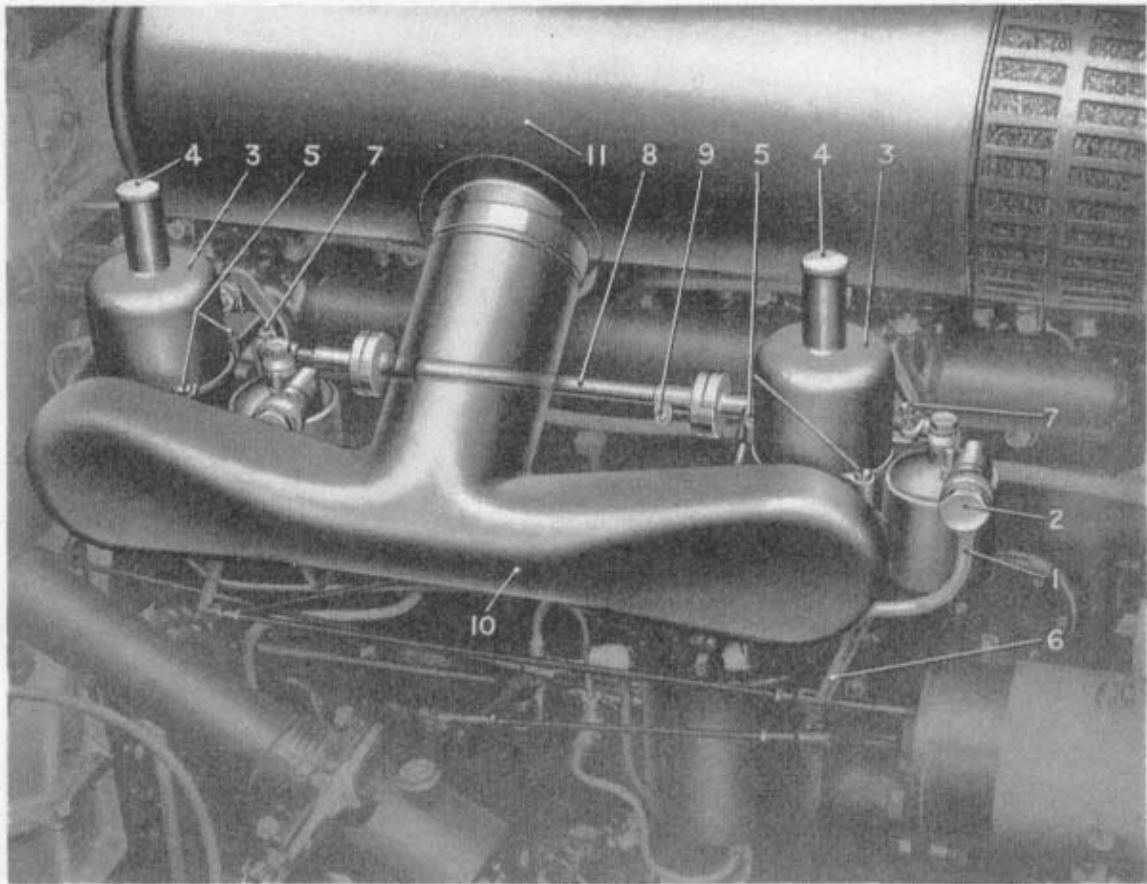
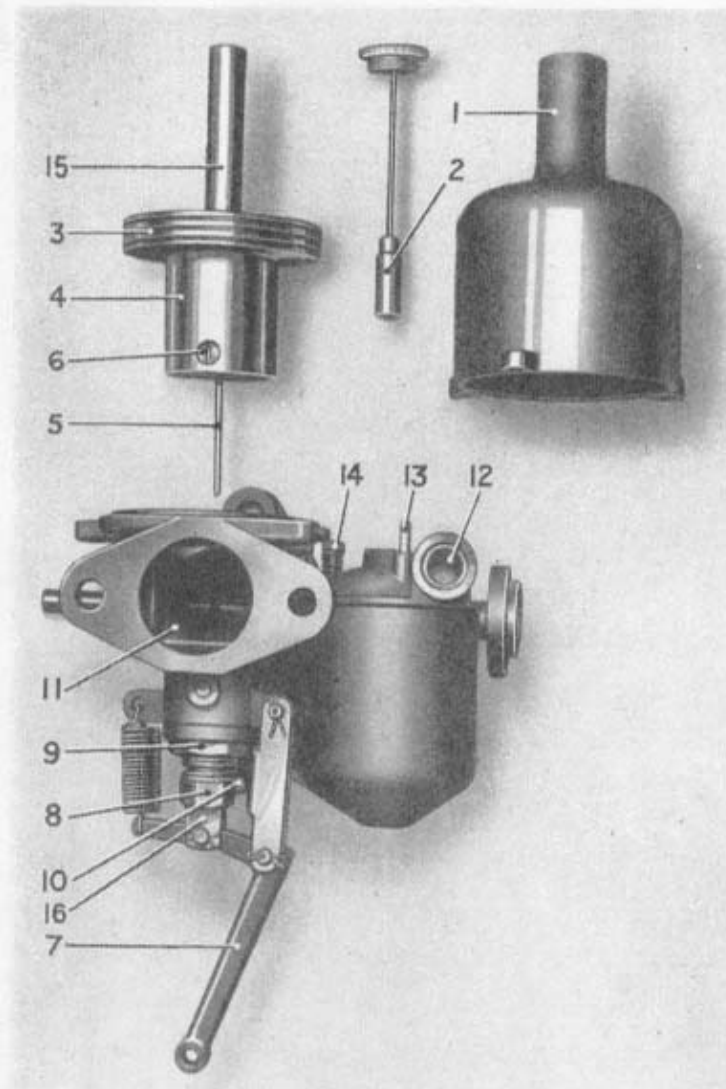

Fig. 13. CARBURETTERS IN POSITION ON ENGINE.
Fig. 14.—CARBURETTER—EXPLODED VIEW.
In addition a small gauze strainer, shown at (12, Fig. 14), is arranged on each carburetter. These should be removed and cleaned every 20,000 miles, as directed on page 33.
Removal is effected by unscrewing the two union nuts (2, Fig. 13). The strainer gauzes can then be removed and cleaned in petrol.
Two carburetters of the S.U. controllable jet type are fitted as shown in Figs. 13 and 14, one being shown in section to illustrate the principal parts.
from cold. The damper consists of a small cylindrical brass plunger (2, Fig. 14), attached by a thin steel rod to the oil cap nut (4, Fig. 13). Inside the plunger is a one-way ball valve which seats in an upward direction. The plunger is a free fit in the hollow guide rod of the automatic air valve piston, the chamber being filled with a thin oil. The action of the device being as follows:—
Every month, as directed on page 30, the oil reservoir cap nut (4) (Fig. 13), should be unscrewed and the plunger withdrawn, *great care being taken to avoid damage to the plunger rod by bending*, the reservoir should be topped up, if required, with the recommended oil, so as to maintain the level of the oil to the
If it is suspected that the automatic air valve is not working correctly, the air intake (10, Fig. 13), should be removed, and a check made by lifting the piston with the fingers, when it should be noted that the piston falls quite freely on to its seat when released.
If any sticking or sluggishness is apparent, it will be necessary to dismantle the air valve assembly; first remove the hydraulic piston damper, next remove the three screws (5, Fig. 13), and lift off the cylinder (3). The piston valve can be then lifted out, *the utmost care being taken not to bend or damage its depending needle valve* (5, Fig. 14), *or to bruise the valve in any way*. The valve, cylinder and guide, should be carefully wiped with a piece of clean cloth dipped in petrol, and the piston rod ONLY lubricated with a few drops of thin oil.
The suction disc (3, Fig. 14), does not touch the walls of the cylinder, there being a small clearance, and it is centralised solely by the piston rod working in the guide. Therefore, any sluggishness in movement is probably due to dirt in the guide, or on the cylinder walls.
The needle valve is secured in position by means of a grub screw, (6, Fig. 14), and if it should be necessary to remove this, as, for instance, when replacing an accidently damaged needle, it must be particularly noticed that the location of the valve is determined by a shoulder. The valve should be pushed into the piston until this shoulder is just flush with the lower face and the grub screw tightened.
The quantity of mixture for slow running is determined by means of an adjustable screw stop on the front carburetter (7, Fig. 13), which limits the closing movement of both throttles. This is so adjusted that the engine will idle slowly but reliably when the hand throttle lever on the steering wheel is set right to the bottom of its range and the accelerator pedal released. The stop on the rear carburetter is normally inoperative, and is only used to help initial adjustment.
Re-adjustment of the jets, and of the control shaft between the carburetters, should not normally be required. If, however, the whole adjustment has been disturbed, first adjust the throttles so that both carburetters function equally at "fast idle". An indication that both pistons have risen can be felt by depressing the top of the piston guide rod (15, Fig. 14) by means of a small rod inserted through the top of the cylinder (3, Fig. 13), after removal of the oil cap nut and hydraulic piston damper (4, Fig. 13). The jets should then be adjusted subsequent to this operation, as described below.
The mixture control lever on the steering wheel operates to raise or lower the actual fuel orifice or jet, through the medium of the levers (6, Fig. 13.). Raising the jet causes the taper needle to sink further into the orifice, so weakening the mixture. Conversely, lowering the jet enriches the mixture. This control is only intended to provide a means of strengthening the mixture for starting from cold, for normal running the jets must be in their highest position, the back of both the jaws (16, Fig. 14), abutting against the adjustable stops (8, Fig. 14), simultaneously.
With the engine warm, the control rods should be disconnected from the ends of the levers (6, Fig. 13), and the latter pushed up until the jaws (16, Fig. 14), are against the stops (8, Fig. 14). Then, with the engine running, the stops should be manipulated until the engine runs regularly. Any sign of "hunting" is due to the mixture being too rich, and one or both of the stops must be screwed further in and the lever pushed up so that the jaw is against it.
If it is required to dismantle the float chambers, it will be most convenient to remove them bodily—after removing the fuel pipes—by unscrewing the hexagon plugs (10, Fig. 14), which secure each to its carburetter body.
The large hexagon (9, Fig. 14), should not be disturbed, as the refitting of this requires special tools to ensure that the jet is accurately centralised relative to the taper needle valve.